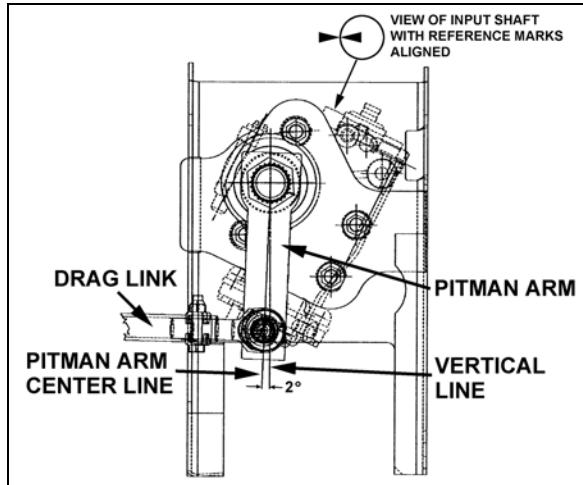

FIGURE 9: PITMAN ARM ALIGNMENT 14056
2. Afterwards, the pitman arm should be adjusted with reference mark aligned or to an angle of 2° in relation with the vertical axis (Fig. 9).